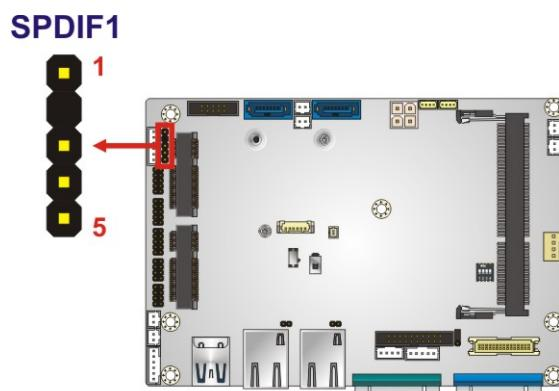

Figure 3-25: S/PDIF Connector Location
**CN Location:** See Figure 3-25